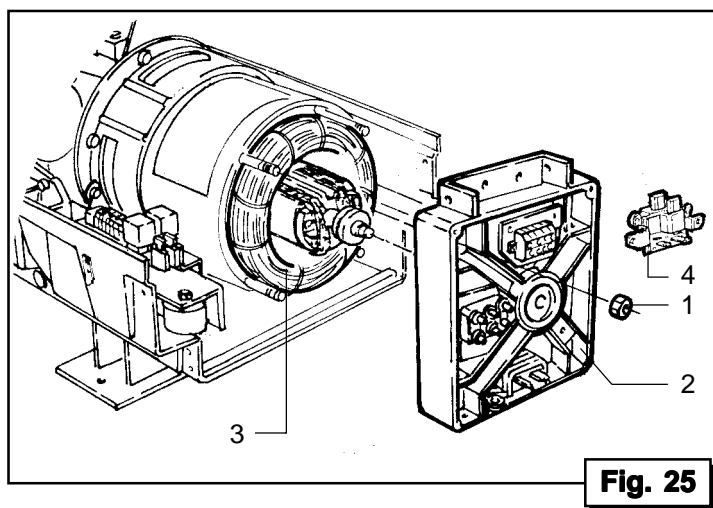

**Fig. 24**
- Scollegare dallo scambiatore i tubi acqua (Fig. 24, Rif. 1)
- Togliere il coperchio in plastica (Fig. 24, Rif. 4).
- Togliere le viti di fissaggio (Fig. 24, Rif. 3) rimuovere lo scambiatore (Fig. 24, Rif. 2)
- Scollegare i cavi dell'alternatore (Fig. 24, Rif. 5).
- Disconnect the water hoses from the heat exchanger (Fig. 24, Ref. 1).
- Remove the plastic cover (Fig. 24, Ref. 4).
- Remove the screws (Fig. 24, Ref. 3) and the heat exchanger (Fig. 24, Ref. 2).
- Disconnect the cables from the terminal board (Fig. 24, Ref. 2).
- Disconnect the alternator cables (Fig. 24, Ref. 5).